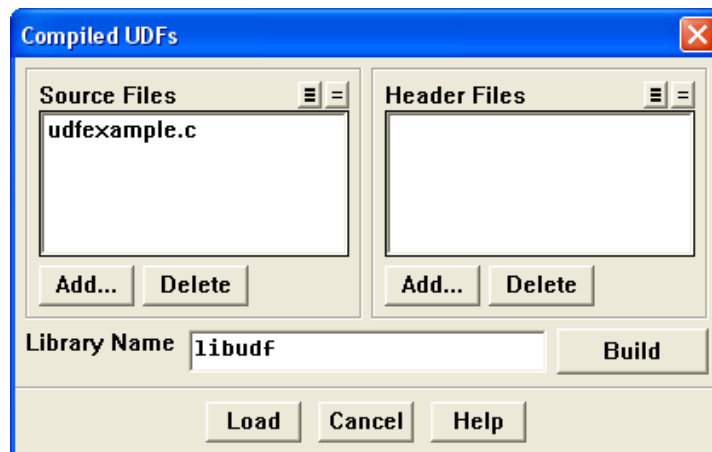

Figure 8.1.6: The Compiled UDFs Panel
4. Open the Compiled UDFs panel (Figure 8.1.6).